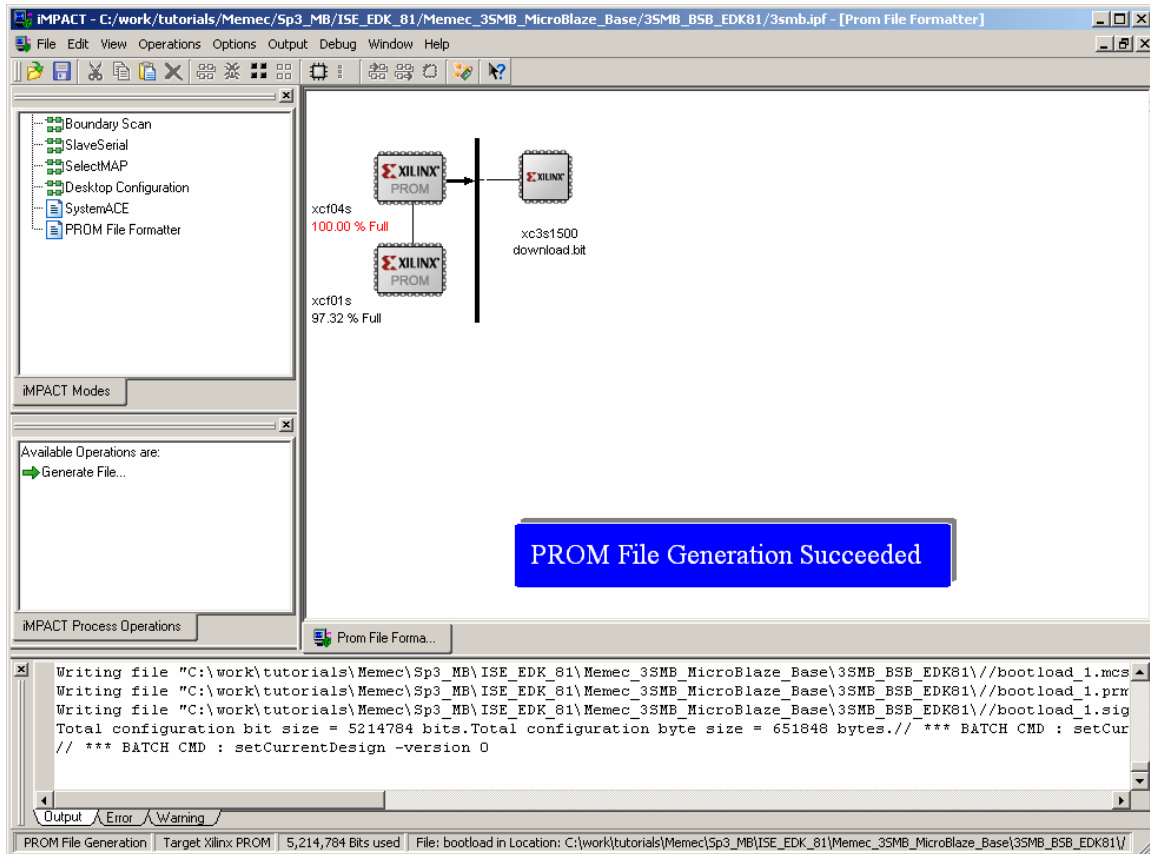

Figure 22 – PROM File Generation Succeeded
16. In iMPACT, select **Operations → Generate file...** . If successful, Figure 22 will be displayed. The .mcs files now exist in the project directory.